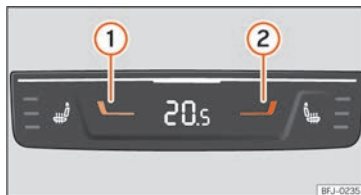

Fig. 149 In the rear part of the centre console: Climatronic temperature controls for the rear seats.
- Press buttons ① (blue-cold) and ② (red-hot) »» Fig. 149 to adjust the temperature.